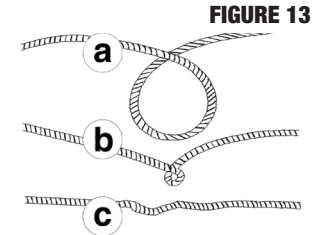

FIGURE 13
5. **PREVENT KINKS IN WIRE ROPE BEFORE THEY OCCUR (FIGURE 13).**